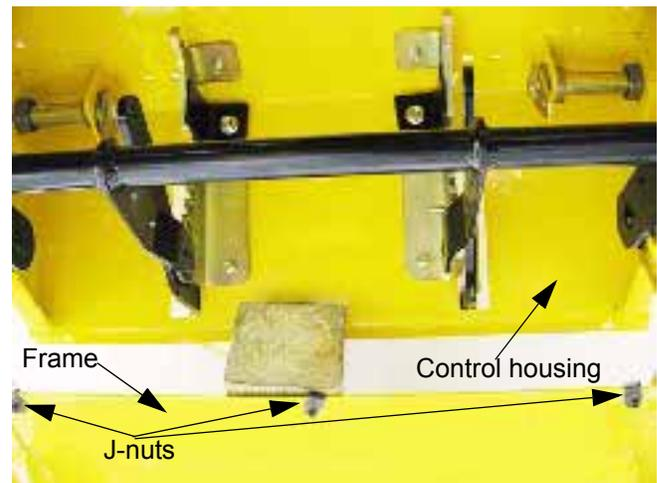

Figure 11.24
11.24. Lift the front of the control housing and support it with a 4 X 4 or similar dimensional lumber. See Figure 11.24.